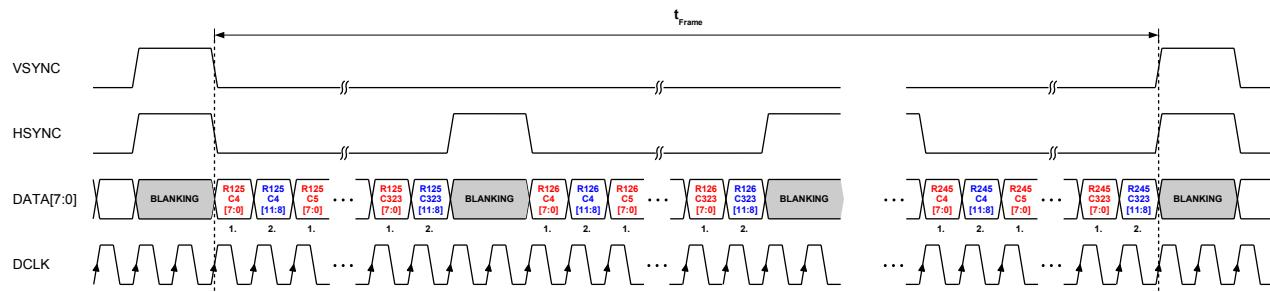

Figure 33: lsb/msb split mode
- lsb/msb split mode: Transfers 12 bit pixel data with LSByte leading and MSByte trailing with 2x DCLK. Refer to Table 15 and Figure 33.